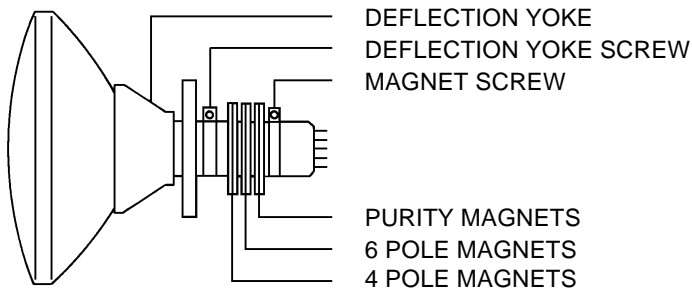

Fig.3-1
1. Tighten the screw for the magnet. Refer to the adjusted CRT for the position. **(Refer to Fig. 3-1)**